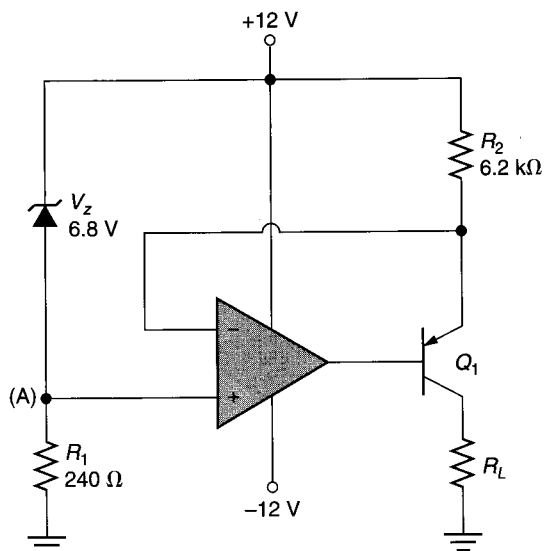

FIGURE 16.47
25. The circuit in Figure 16.47 has the component values shown. Determine the value of  $V_{CE}$  for  $R_L = 1 \text{ k}\Omega$  and  $R_L = 3 \text{ k}\Omega$ .